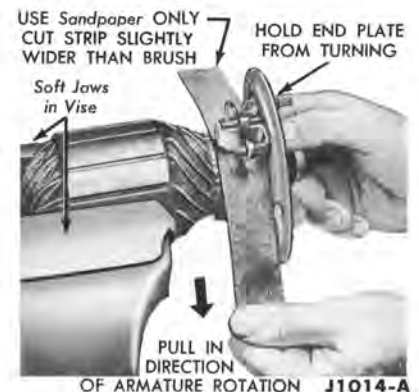

FIG. 11—Generator Brush Seating
5. Insert new brushes in the brush holders and seat them (Fig. 11). Install the armature terminal screw and insulators, and install the ground brush screw. On the 1962 generator, install the brush arms and springs on the pivot studs and attach the brush terminals to the brush holders.
5. Make sure that the new brushes slide freely in the brush holders. Attach the brush terminals. Seat the new brushes by sanding as shown in Fig. 11.